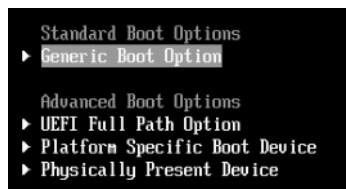

Figure 6-25 Boot options
3. Select **Generic Boot Option**, as shown in Figure 6-25.